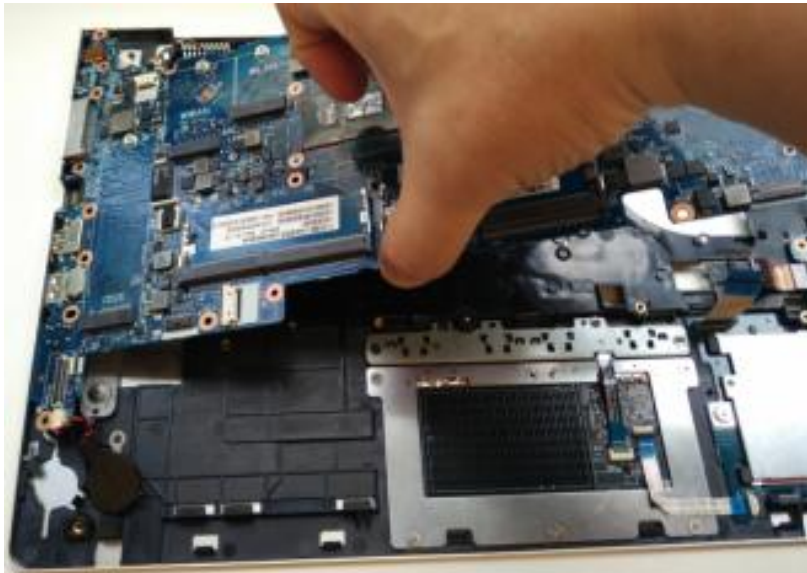

Fig.2
- 2.Disassemble M/B from top case(Fig.2).